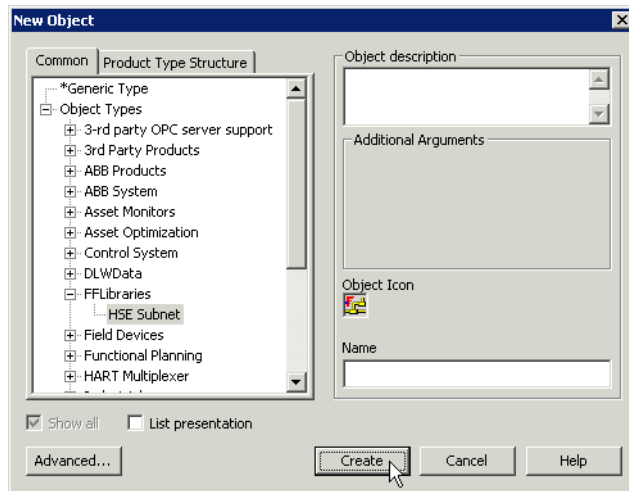

Figure 166. Selection of the HSE Subnet
3. Select the **HSE Subnet** object and enter a name for the object (refer to Figure 166).